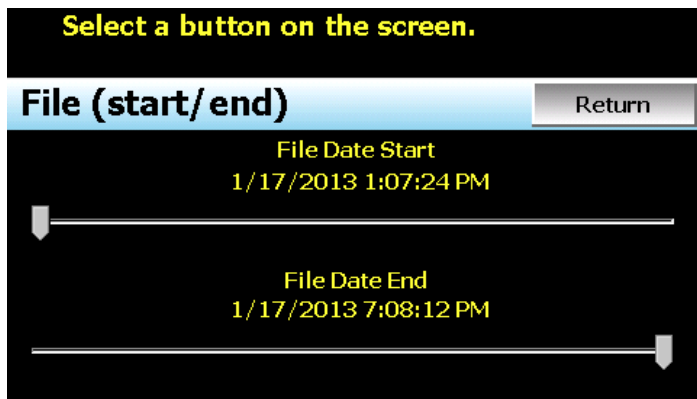

Fig. 71: Set File (start/end) Time Scale
- To adjust the period of time to plot from the data file, press the “Time” button. The File(start/end) screen will appear (Fig. 71).